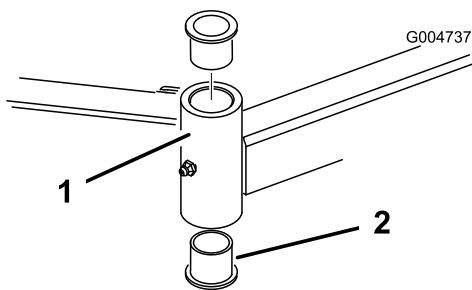

Figure 82
4. Insert a pin punch into the top or bottom of the mounting tube and drive the bushing out of the tube (Figure 82).